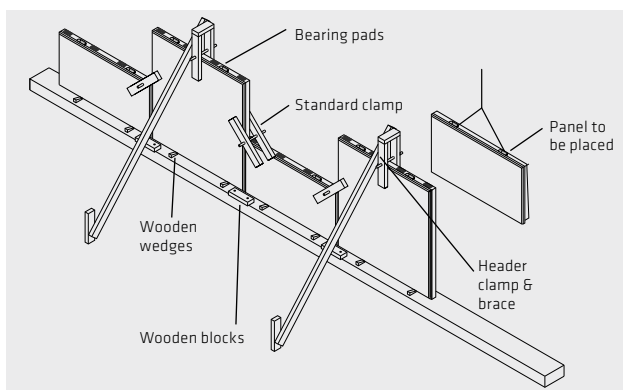

FIGURE 9: Layout of bearing pads, wedges and clamps.
- ▶ On the taller panels, install a header clamp and brace and tighten the clamp securely. Drive a stake in front of the wall at the midpoint of the panel for adequate bracing. (Figure 9 on pg. 10) Nail the bottom of the brace into the stake. Check the batter and then nail the brace to the header clamp.
- ▶ On the half-panels, the header clamp and staking are unnecessary; the half-panels should be held in place by clamping to the adjacent taller panels. At every vertical joint, position a standard clamp at the top of the half-panel (so that it results in one clamp on either end of the half-panel) and loosely fasten it. (Figure 9)
- ▶ Nail 2 x 4 wooden blocks at the panel joint to prevent sliding during backfill of the first course. (Figure 9)
- ▶ Place bearing pads on lower panel. (Figure 9)